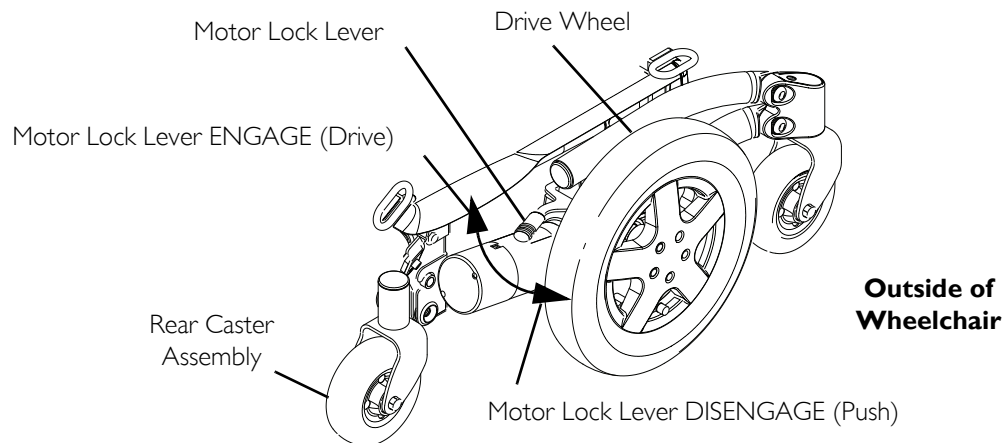

FIGURE 7.1 Disengaging/Engaging Motor Lock Levers
NOTE: For this procedure, refer to FIGURE 7.1.
1. Perform one of the following (FIGURE 7.1):